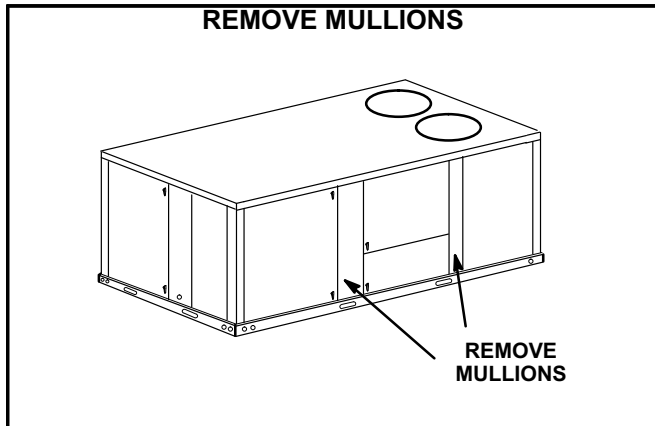

FIGURE 9
- 2- Remove the front middle and right side mullions as shown in figure 9.